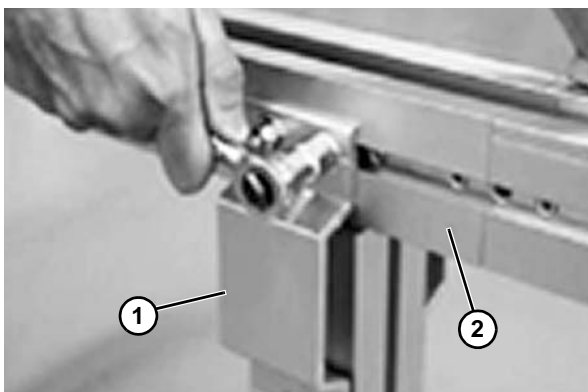

Figure 20
4. Mount the first support bracket (**Figure 20, item 1**) to the conveyor beam (**Figure 20, item 2**). Pull the second bracket up and insert the T-bolts into the conveyor beam T-slot. Tighten the nuts.